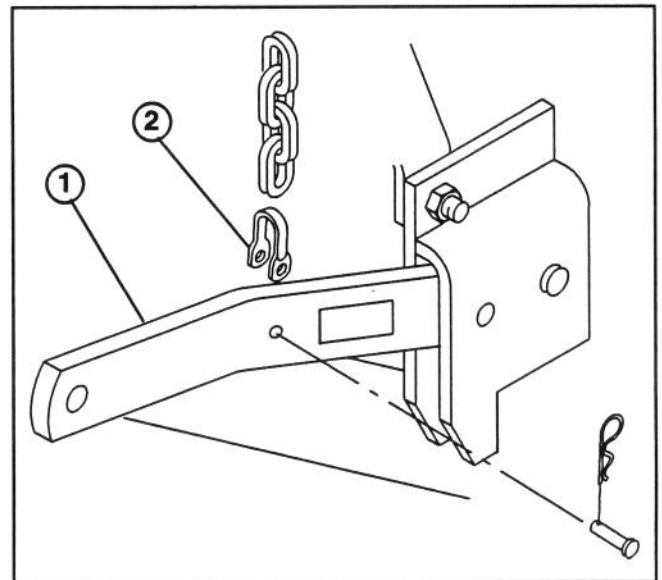

Figure 11
6. Secure bottom end of each to chain to appropriate lower lift arm with a shackle, clevis pin and hair pin cotter, as shown in figure 11.